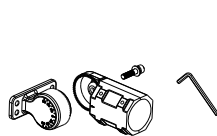

Figure 1
- Step 1: Separate the bracket with tool. (Figure 1)